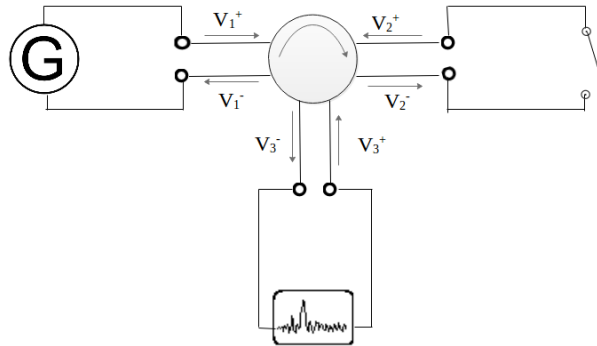

Figure 5: Measure Isolation at port3 ,open circuit at Port2
2.5 Fourth Step: Measure Isolation at port 3, Open circuit(OC) at port 2
- The set up would like figure 5.